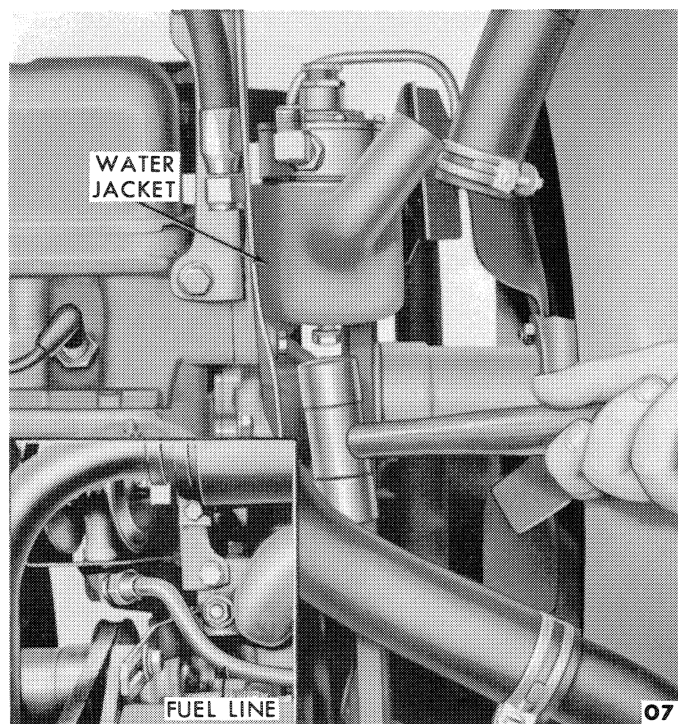

Figure 16—Removing Vaporizer
2. Drain the radiator. Loosen the clamp that secures the radiator upper hose to the vaporizer water jacket, Figure 16. Disconnect the upper hose from the water jacket.
4. Turn the bolt that secures the vaporizer to the water jacket approximately three turns counter-clockwise. Strike the bolt with a soft hammer, Figure 16, to free the vaporizer from the water jacket. Remove the bolt and washer, then lift the vaporizer assembly from the water jacket.